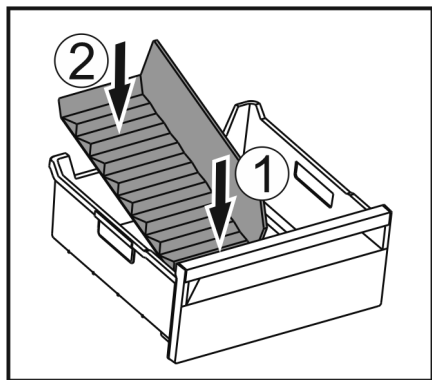

Fig. 110
- Insert the front part of the ice compartment divider. Fig. 110 (1)
- Lower the rear part of the ice compartment divider to the drawer bottom. Fig. 110 (2)